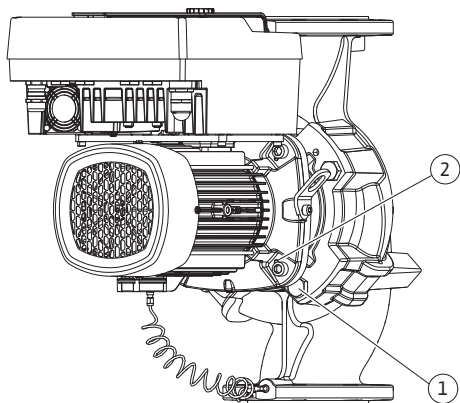

Fig. 104: Pressing off the motor impeller unit via threaded holes (DN 100 ... DN 125)
23. Pull the motor impeller unit off the pump housing. Use the two threaded holes (see Fig. 104, Item 1) for this purpose.
33. To push the motor impeller unit off the pump housing, use the two adjacent threaded holes (Fig. 104, Item 1) and use suitable screws provided on-site (e.g. M10 x 25 mm).